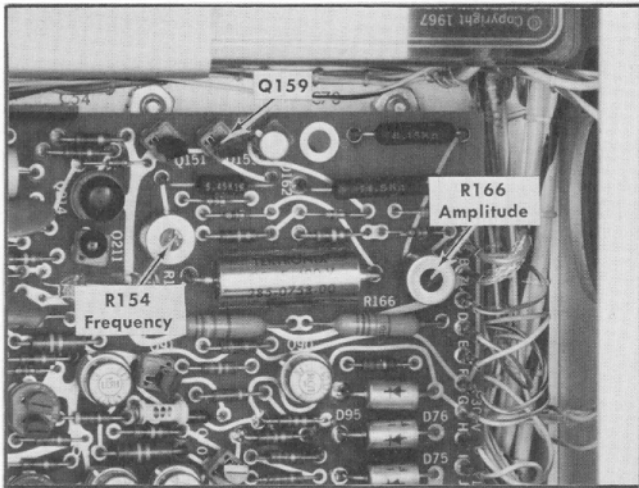
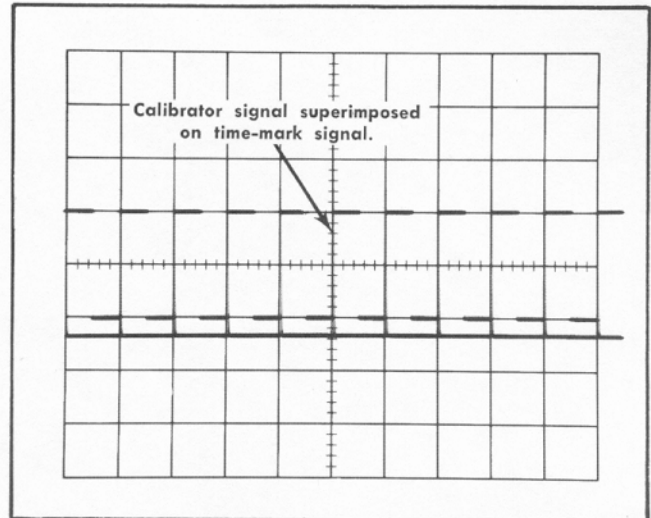

Fig. 5-16. Location of Calibrator controls.
Fig. 5-17. Typical CRT display showing correct calibration repetition rate.
c. ADJUST—R166, Amplitude (Fig. 5-16) for a meter reading of exactly +40 volts.
d. Remove Q159 (Fig. 5-16) and check the remaining calibrator voltages as listed in Table 5-2. Connect a 50-ohm termination to the CAL OUT connector when checking the 0.2 V, 20 mV and 2 mV positions of the CALIBRATOR switch.
CHECK—One cycle of calibrator waveform for each marker (see Fig. 5-17). The error in 10 major divisions must be  $\leq 0.5$  minor divisions (the positive transition of the square wave at the right hand edge of the graticule must be no more than 0.5 minor divisions (1 mm) from the positive transition of the corresponding time marker). **Disconnect the time-mark generator and proceed to step 20.**
g. ADJUST—R154, Frequency (Fig. 5-16), for one cycle of calibrator waveform for each marker. See Fig. 5-17. (Since the sweep was calibrated in step f, the display should also be one cycle of calibrator waveform for each major division).